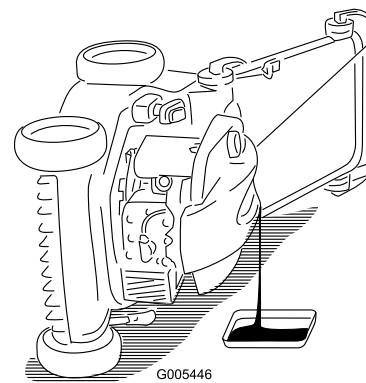

Figure 24
- Tip the mower onto its side, with the air filter up, to drain the used oil out through the oil fill tube (Figure 24).